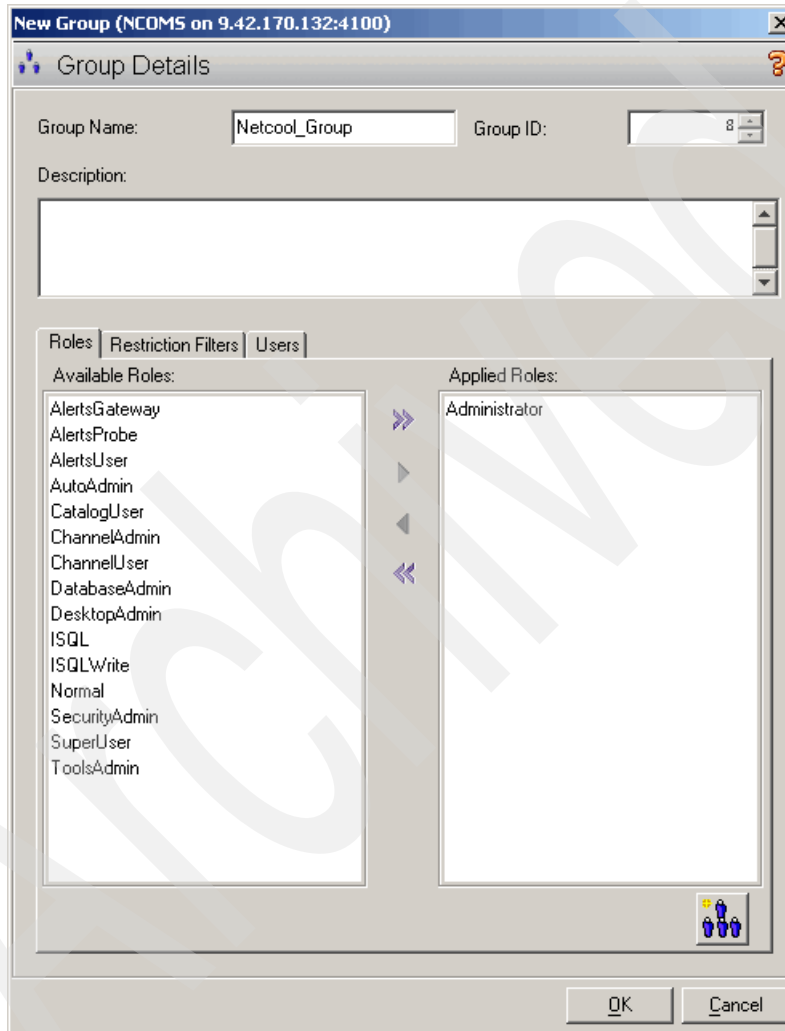

Figure 4-19 IBM Tivoli Netcool/OMNibus Administrator adding groups
2. Click the Add Group icon (). The Group Details window opens, as shown in Figure 4-19. Be sure to: